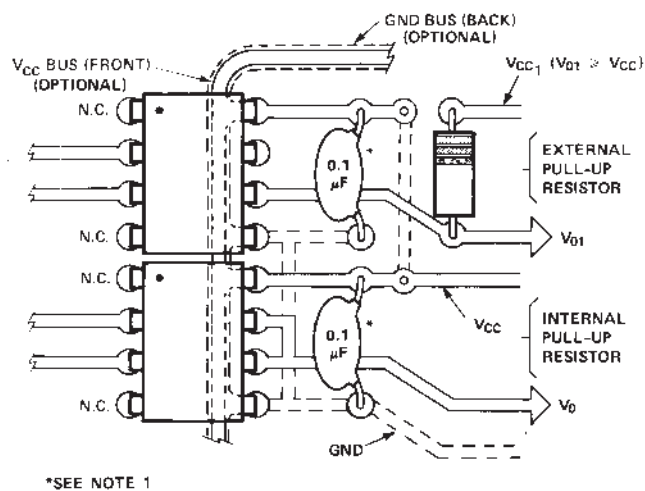

Figure 19. Recommended printed circuit board layout.
1. Bypassing the power supply line is required with a $0.1 \mu\text{F}$ ceramic disc capacitor adjacent to each optocoupler as illustrated in Figure 19. The power supply bus for the optocoupler(s) should be separate from the bus for any active loads, otherwise a larger value of bypass capacitor (up to $0.5 \mu\text{F}$) may be needed to suppress regenerative feedback via the power supply.
A recommended layout for use with an internal 1000 Ω resistor or an external pull-up resistor and required V_{CC1} bypass capacitor is given in Figure 19. V_{CC1} is used with an external pull-up resistor for output voltage levels (V_O) greater than or equal to 5 V. As illustrated in Figure 19, an optional V_{CC} and GND trace can be located between the input and the output leads of the HCPL-2300/HCPL-0300 to provide additional noise immunity at the compromise of insulation capability (V_{I-O}).